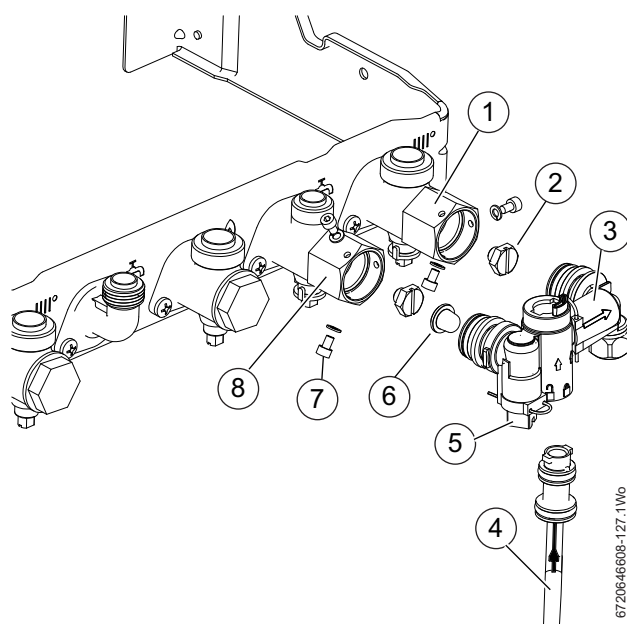

Fig. 31 Fitting the Filling link
- Fit the Filling link assembly onto the DHW inlet and CH return connections, refer to figure 31